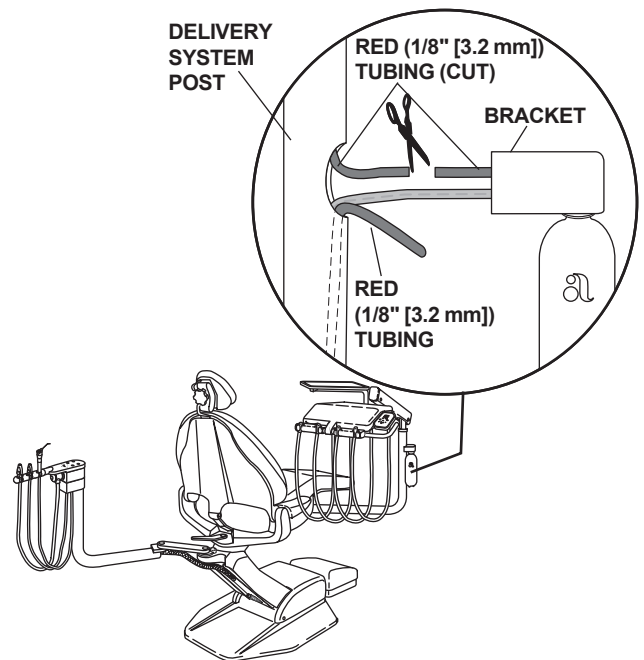

FIGURE 13
1. Remove the water bottle bracket from the delivery system post and cut the red tubing (see *Figure 13*).
2. Locate and pull out the end of the existing red tubing from within the delivery system post (see *Figure 13*).